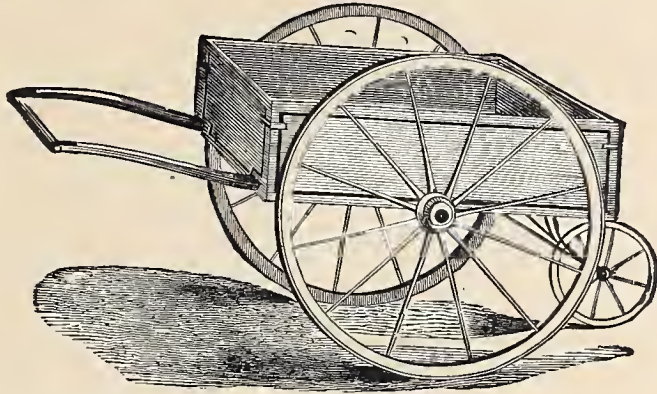

Fig. 535.—Three-Wheel Hand-Cart.
*The Three-Wheel Hand-Cart*, represented by *Fig. 535*, is made especially for city use. It is particularly adapted for publishers, printers, paper dealers, and grocers. We make it with springs when ordered,